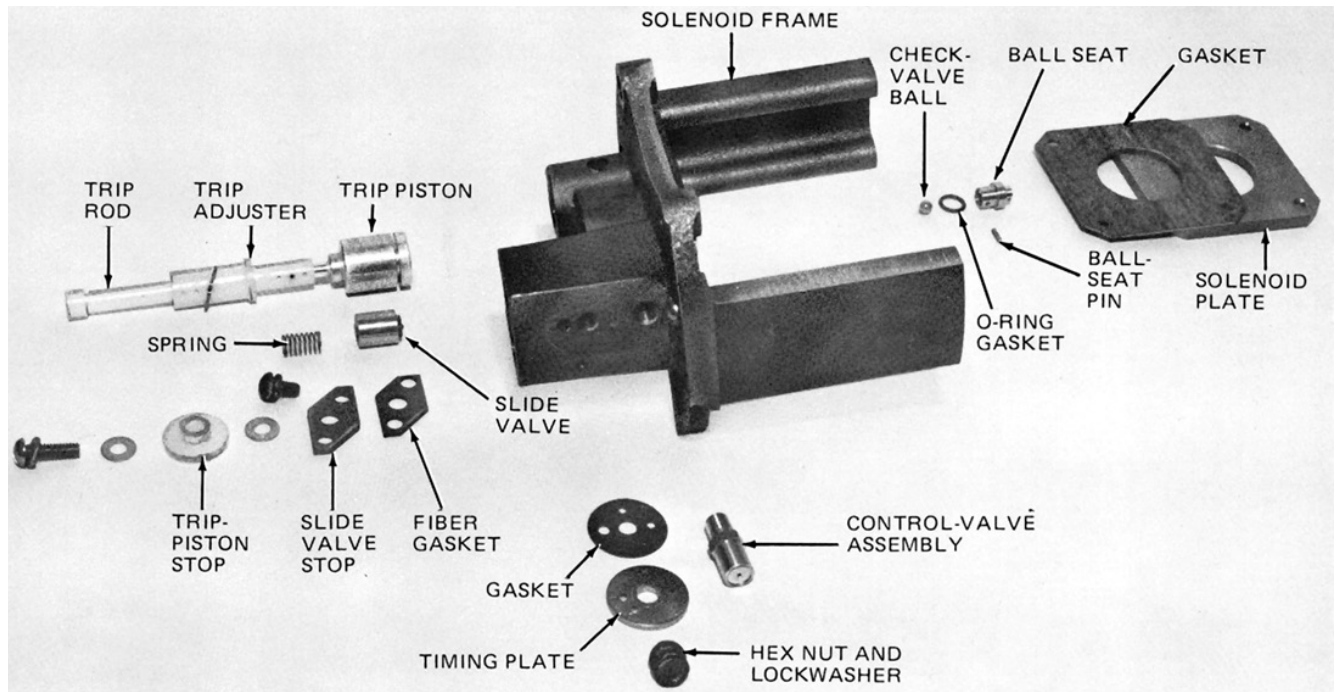

Figure 18. Components of hydraulic mechanism assembly
- B. Insert a thin metal plate through the spring to release the spring tension on the ball-seat pin, as shown in Figure 18.
- C. Reinstall o-ring gasket on ball seat, replace check valve ball, and pin the assembly to the spring (Figure 18).